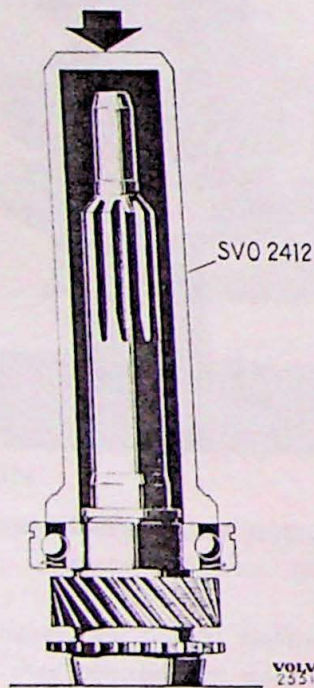

Fig. 3-28. Fitting ball bearing on input shaft
4. Press the bearing (64) onto the input shaft with the help of drift SVO 2412 see Fig. 3-28. Select a